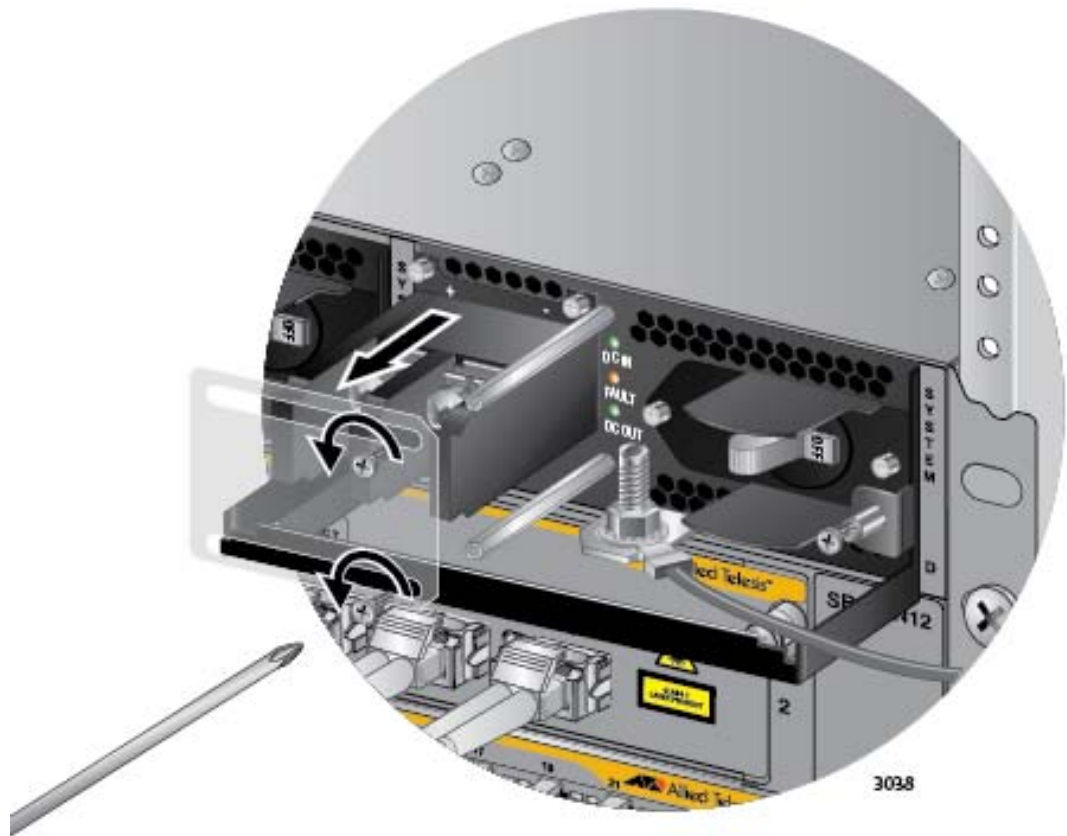

Figure 132. Removing the Plastic Cover
- Using a #1 Phillips-head screwdriver, remove the two screws that secure the plastic cover over the positive and negative terminals and remove the plastic cover from the power supply, as shown in Figure 132. You may need to lift the locking handle slightly to access the bottom screw.